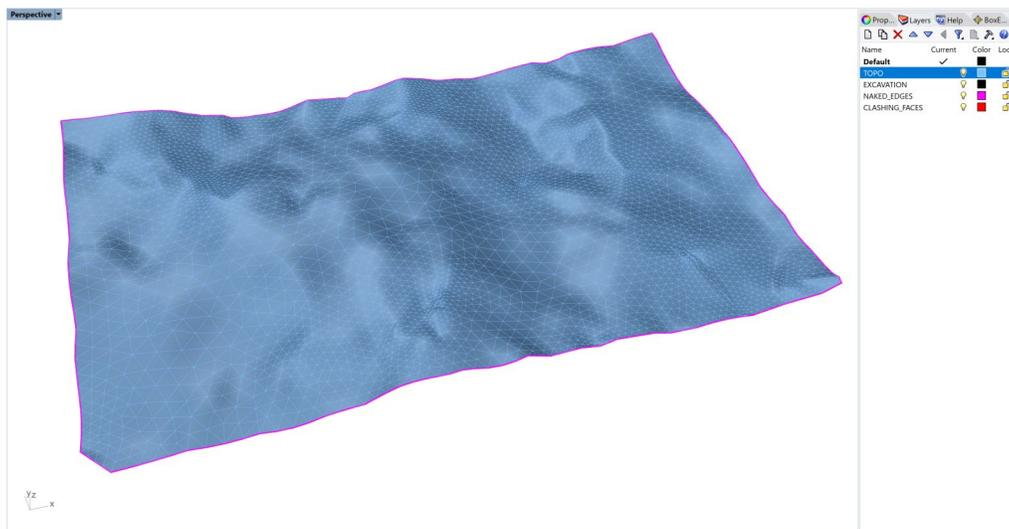

Figure 69: Remeshed and fixed topographic mesh. (The grid is not shown.)
13. Select the topo mesh only and fix the crack using **_GHeal** → *AutomaticHeal* → *IssuesToFix*, set *MendCracks = Yes* and all others to *No*; press **Enter** and keep *Parameters = Automatic*. Now the topo mesh contains no issues and has a single naked poly-edge outlining its boundary (Figure 69).